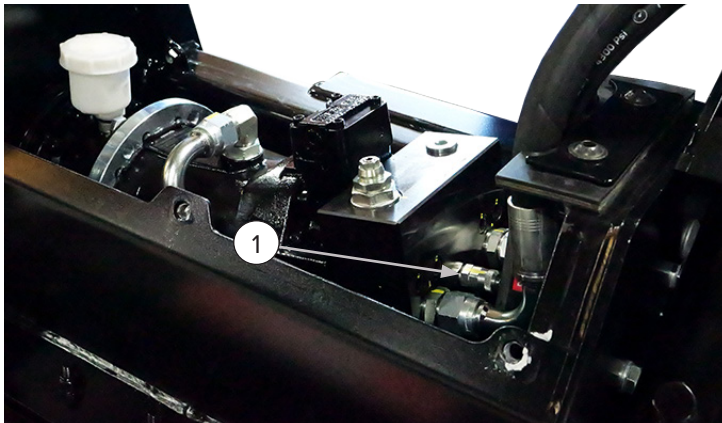

Figure 1
2. Attach the pressure gauge to the MP port (see Figure 1, Item 1). For ease of installation, the guard plate may be removed from around the hydraulic connections.